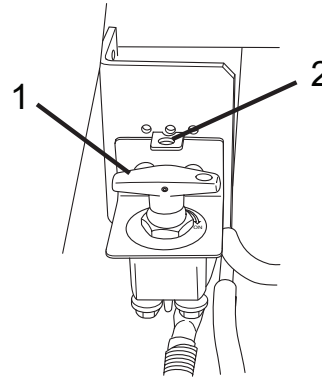

Figure 1
1. Turn the battery disconnect switch (Figure 1, Item 1) counterclockwise so the hole on the switch aligns with the hole in the bracket (Figure 1, Item 2).